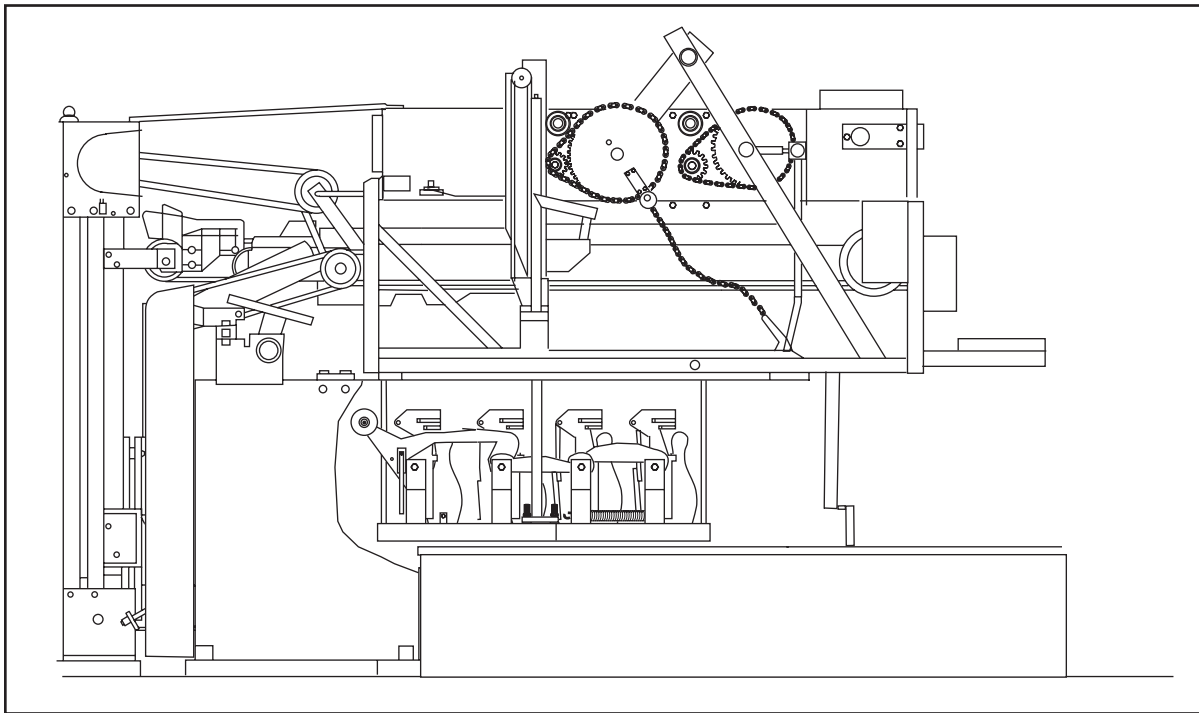

Figure 1-14. Setting New Pins
- C. Receive pins from the distributor and set them on the lane for a new frame. *Figure 1-14.*